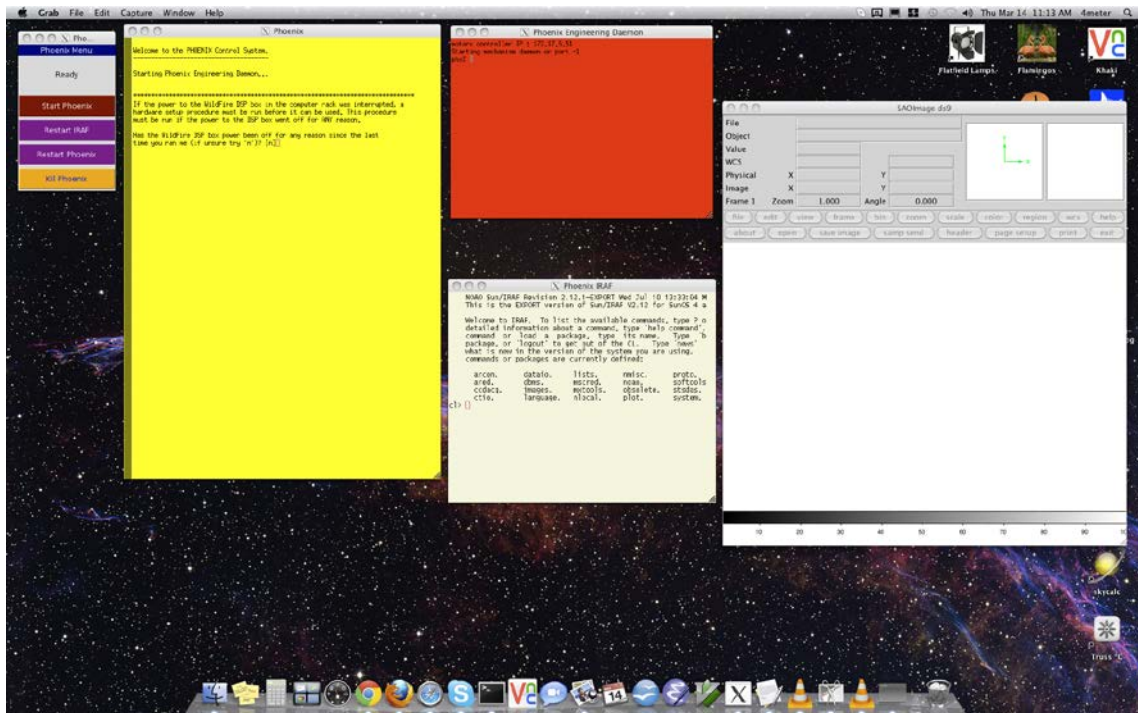

Figure 3: Mayall-2 monitor after commanding Start Phoenix from the Menu GUI
2. Click on the “Start Phoenix” button. This will bring up four windows, as shown in Fig. 3. (Note: these windows have been resized and arranged to fit onto a single screen on the Mayall-2 monitor for clarity).